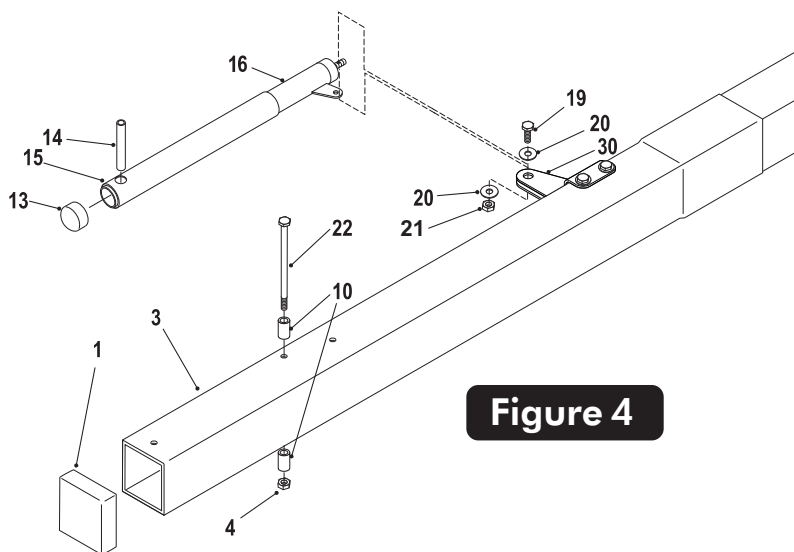

Figure 4
- Slide Actuator Sleeve (#15) over Actuator (#16) and place Actuator Cap (#13) on top. Slide Pivot Tube (#14) through hole near top of Actuator & Actuator Sleeve until equal amounts stick out through both sides of Actuator. See **Figure 4**.
- Lay Pole Assembly on its side on two padded saw horses. Slide tab on Actuator (#16) between Post Ears (#30) and secure using one bolt (#19), two washers (#20) and one lock nut (#4). See **Figure 4**. Tighten bolts tight.
- Secure two stop spacers (#10) to pole, as shown in **Figure 4**, using one hex bolt (#22) and one lock nut (#4).